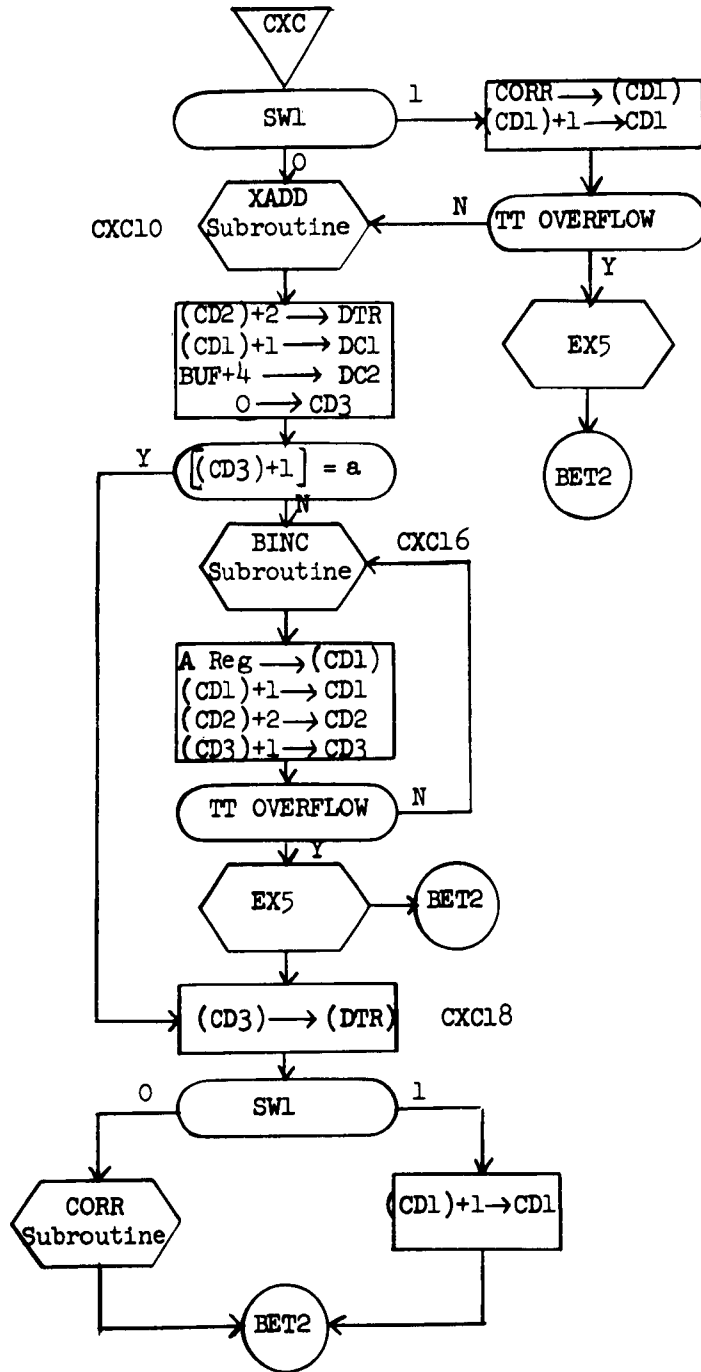

Figure 7.6 CXC
7.2.3.3 CXC Correct Command (Figure 7.6)